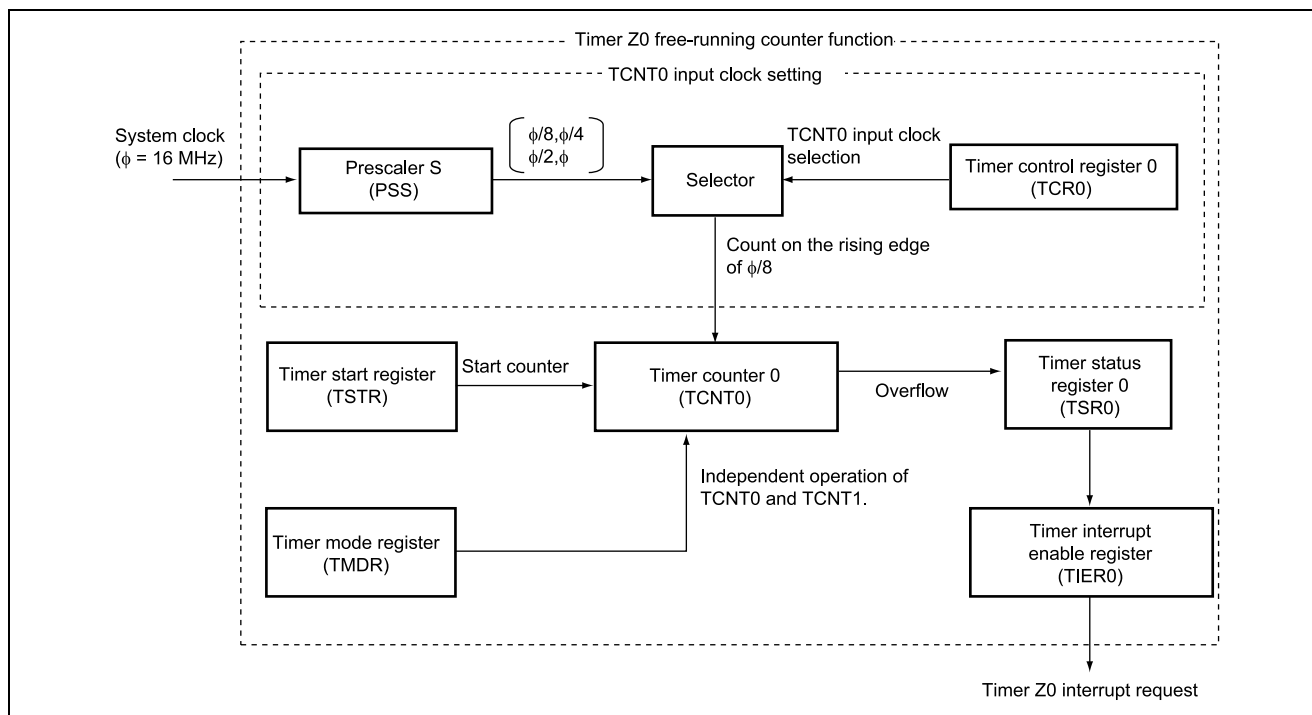

Figure 2.1 Block Diagram of Timer Z0 Free-Running Counter Function
1. In this sample task, the timer Z free-running counter function is used to count the number of timer Z interrupts. Figure 2.1 is a block diagram of timer Z free-running counter function. The elements of the block diagram are described below.